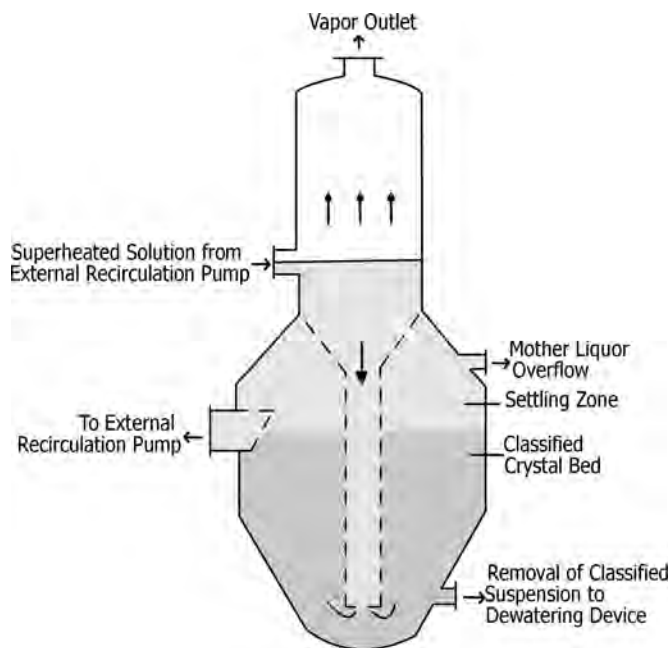

FIGURE 18.7 Oslo type crystallizer.
- Figure 18.7 illustrates a typical design.